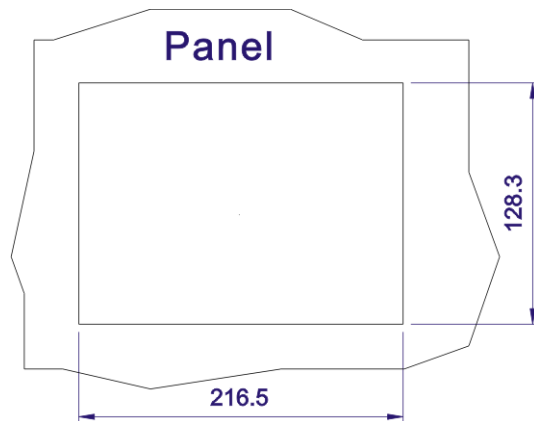
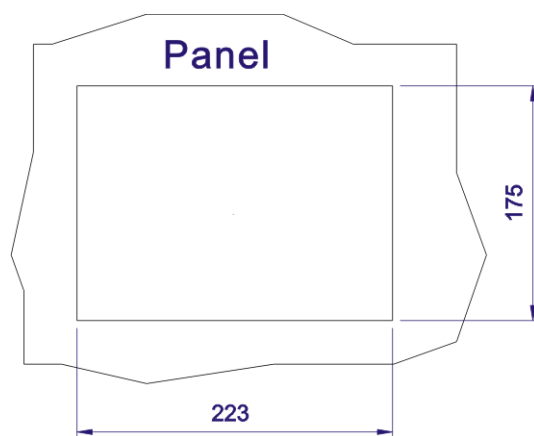
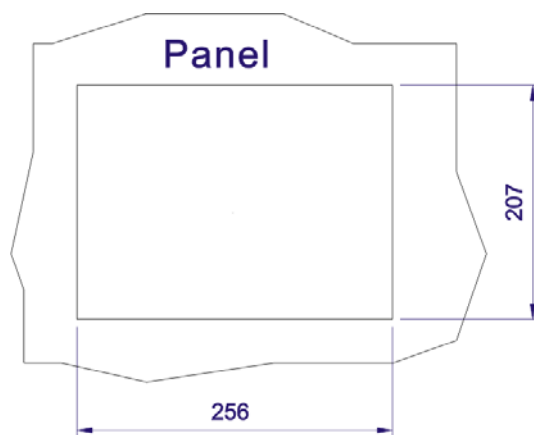

Figure 3-13: AFL-07A-LX Panel Opening
Figure 3-14: AFL-08AH-LX Panel Opening
Figure 3-15: AFL-10A-LX Panel Opening
- Step 2:** Cut out a section from the panel that corresponds to the rear panel dimensions of the flat panel PC. Take care that the panel section that is cut out is smaller than the overall size of the metal frame that surrounds the flat panel PC but just large enough for the rear panel of the flat panel PC to fit through (**Figure 3-13**, **Figure 3-14** and **Figure 3-15**).